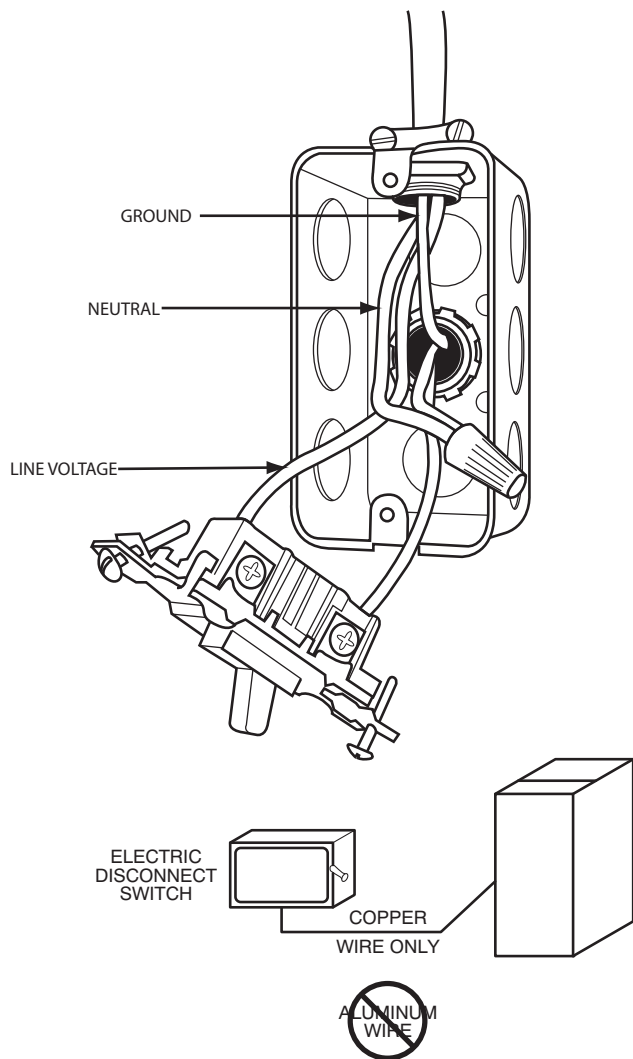

Fig. 34 - Field-Supplied External Electrical Box on Furnace Casing
Do not connect aluminum wire between disconnect switch and furnace. Use only copper wire. See Fig. 34.
1. Drill two (2) 1/8-in. (3 mm) pilot holes through the dimples in the furnace casing near the 7/8-in. knock-out on the side
- Connect field power and neutral leads to furnace power leads inside the external electrical box as shown in Fig. 34.